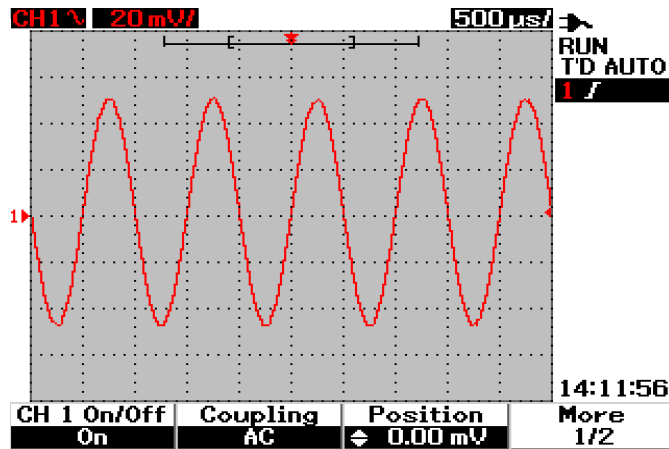

Figure 3-3 Adjust vertical position for the waveform displayed.
You can adjust the waveform vertically by pressing the F3 softkey. The following Figure 3-3 displays the vertical position adjustment setting.
- 2 As you turn the rotary switch , the corresponding voltage value is displayed under the Position header shown in Figure 3-3. This voltage value indicates how far the ground reference is from the center of the screen.